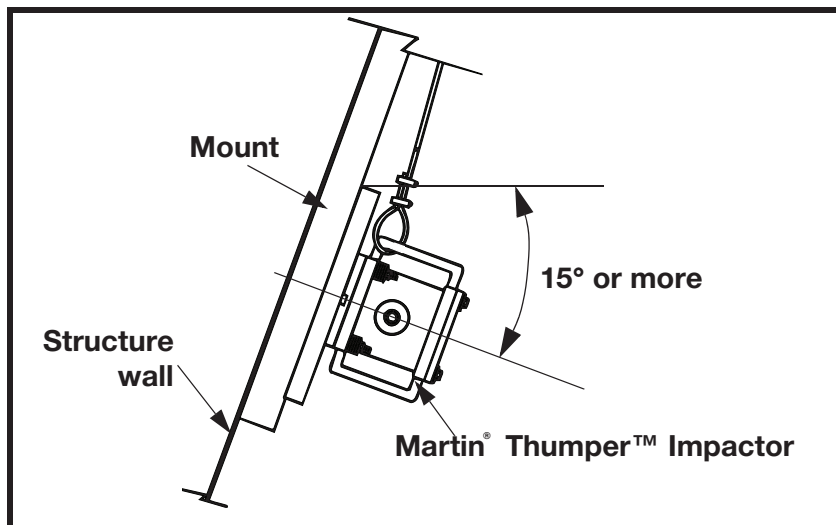

Figure 4. Mounting Martin® Thumper™ Series Timed Impactor
Martin® Thumper™ Series Timed Impactor must be mounted with a minimum slope of 15° below horizontal. (See Figure 4.)
1. If using Martin® Thumper™ Series Timed Impactor, ensure mounting location has a minimum slope of 15° below horizontal. (See Figure 4.)